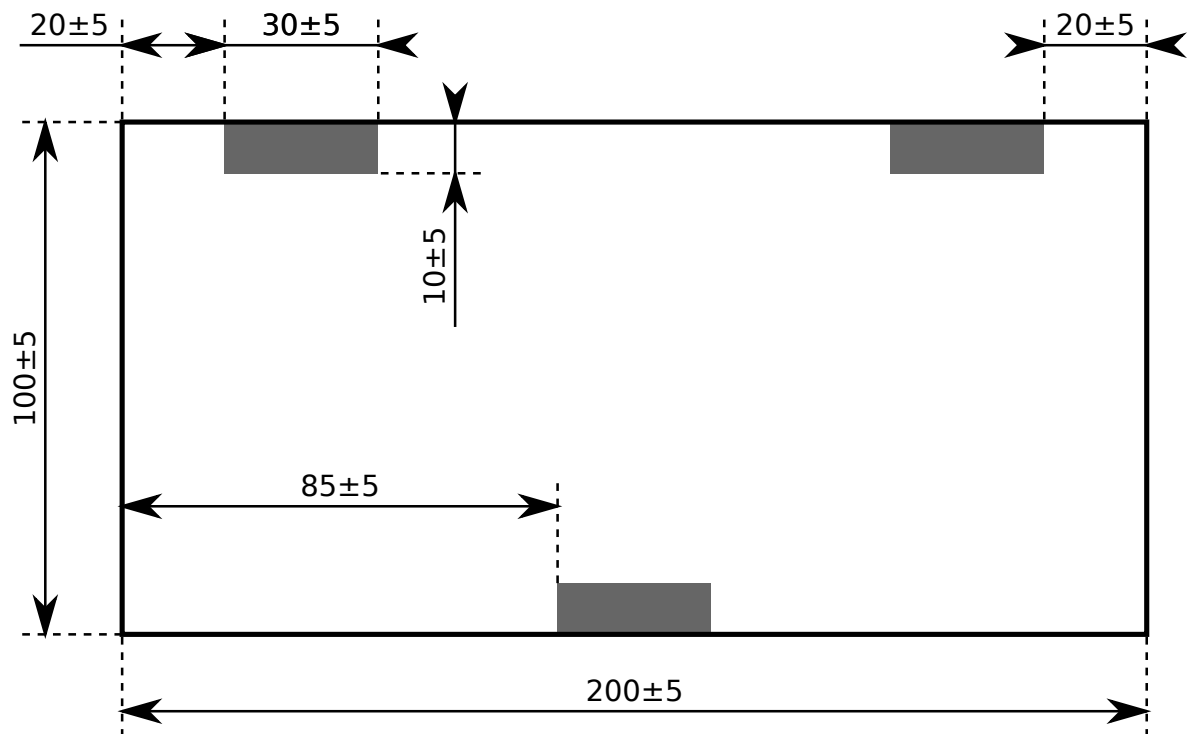

Figure 2: The dimensions of the required robot badge mountings. The shaded areas are hook-type Velcro. All dimensions are in millimetres.
3.2.2 A robot must feature four of the badge mounts shown in figure 2. These mounts must permit a flat $200 \times 100\text{mm}$ panel to be attached to them. The three areas of each mount must feature the illustrated areas of hook-type Velcro to allow this panel to be fitted.